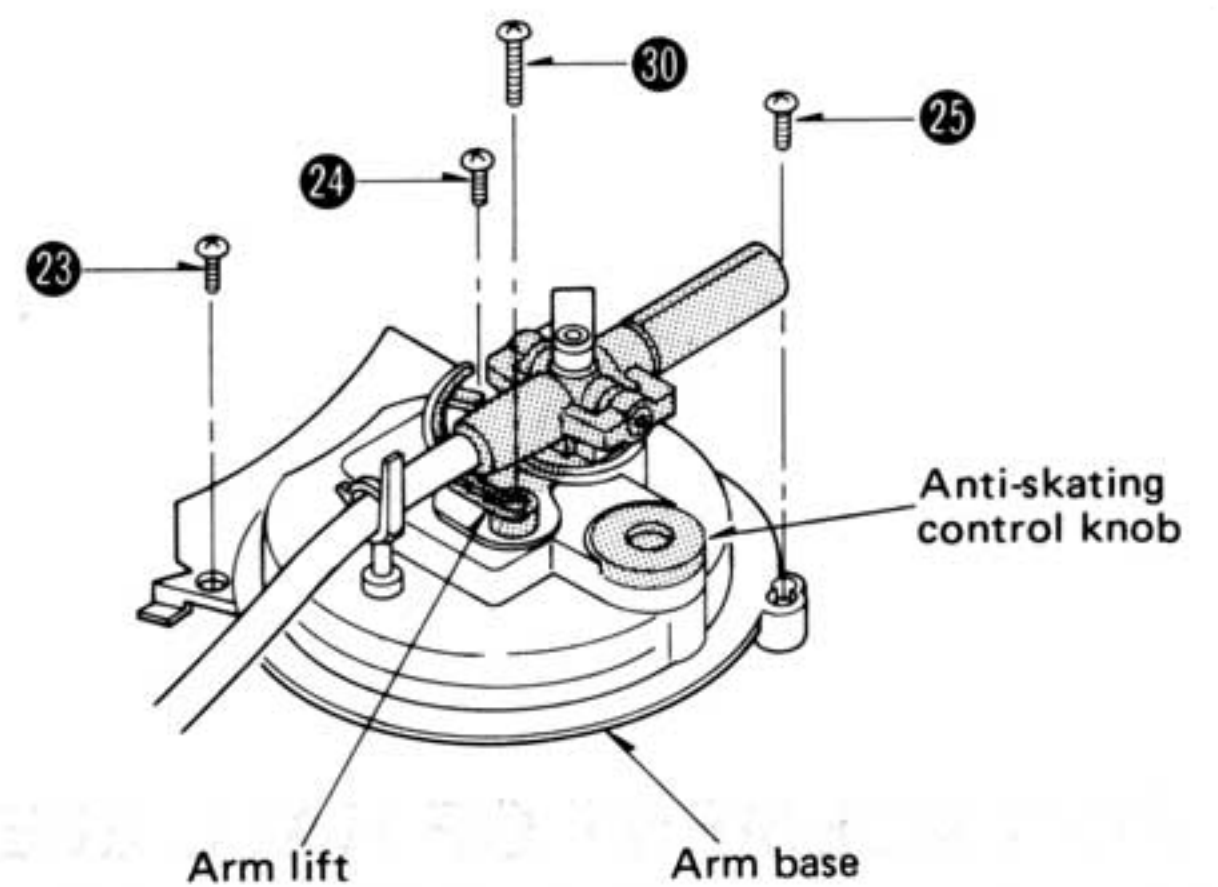

Fig. 6
2. Remove the arm base setscrews 23 ~ 25 . Then, the arm base can be removed. (See Fig. 6)
6. When removing this lift base plate, remove the arm lift setscrew 30 before turning over the arm base, and then remove the arm lift. (See Fig. 6)
7. Remove the anti-skating control knob. (See Fig. 6)